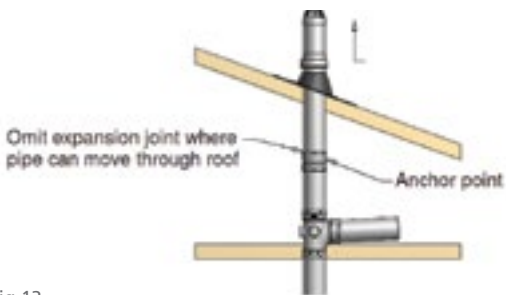

fig 13
a) Above the highest branch connection to a foul and/or waste stack is free to move through a weather proof roof sleeve. (fig 13)